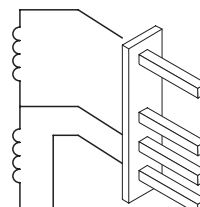

Figure 11.7
- 3 Measure the electrical resistance between the connector pins of the on-off operators as illustrated in Figure 11.7.